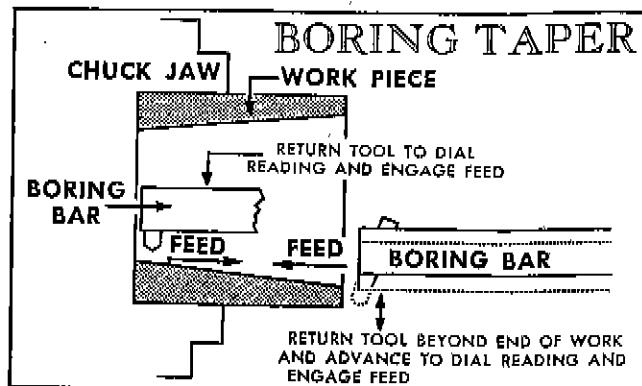
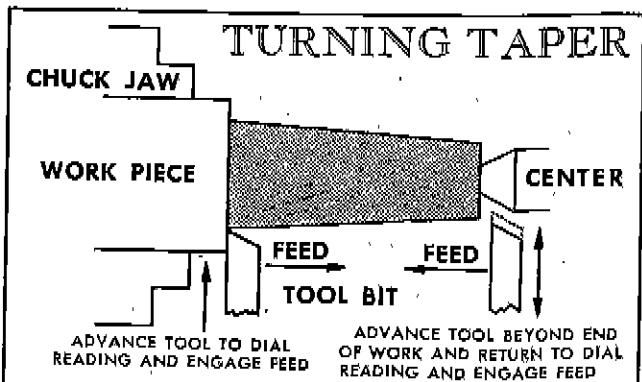

FIGURE 11
FIGURE 12
1. Mount work in the lathe - whenever possible the cut should be made as shown in figure 11 for boring taper and figure 12 for turning taper.